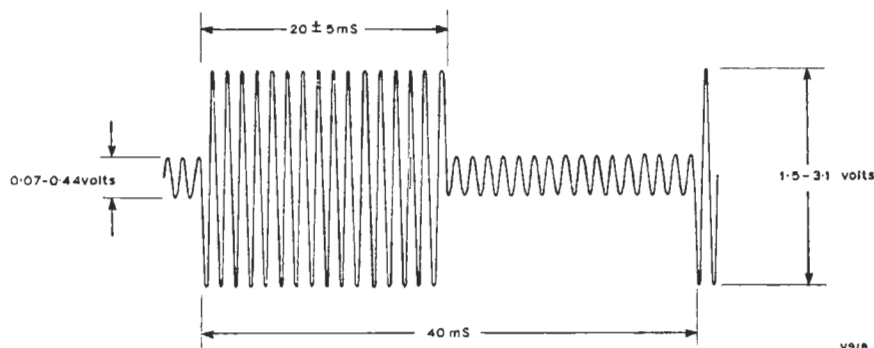

Fig. 14.1 Gated Tone Output Waveform
- (d) A *gated tone* output of 800 Hz which can be fed to the source of the *Remote* input signal via a control line while picture-phasing is being adjusted manually. The tone is at low level until the two inputs are in approximate picture synchronism when the output takes the form shown in Fig. 14.1.
Observe the waveform at the *Gated Tone* output. It should take the form shown in Fig. 14.1. Adjust the *Background Tone* control RV4 to obtain the level shown.